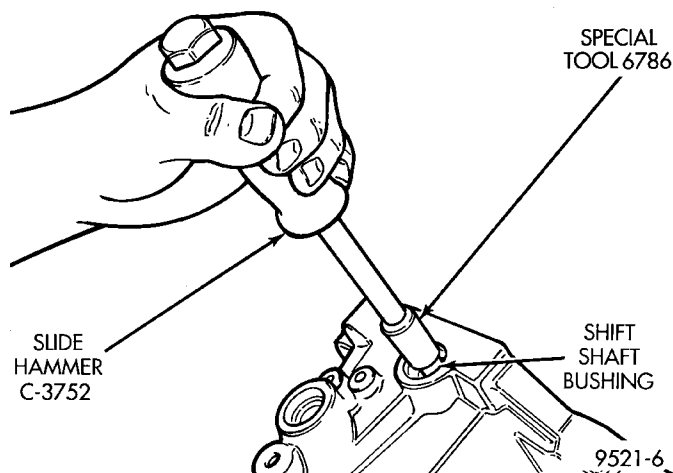

Fig. 135 Selector Shaft Bushing Removal
- (1) Remove selector shaft using procedure in this group.
- (2) Thread tool #6786 into bushing.
- (3) Install slide hammer #3752 onto tool and remove bushing using slide hammer (Fig. 135).